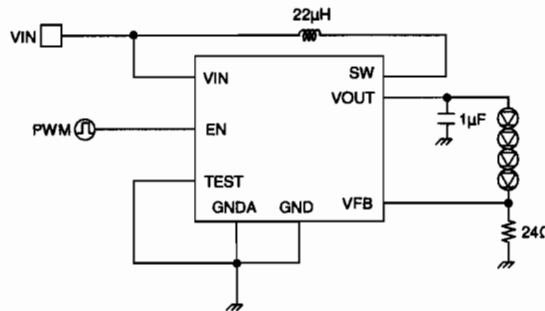

Fig.38 The brightness adjustment example of EN terminal by PWM (fPWM = 100 ~ 300Hz)
(1) PWM brightness adjustment is made by giving PWM signal to EN as shown in Fig.38.